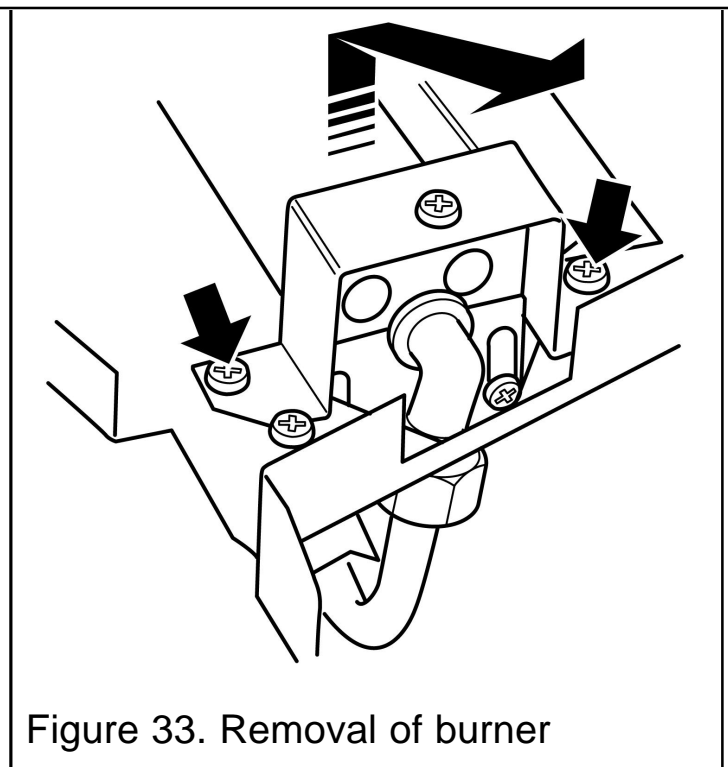

Figure 33. Removal of burner
See figure 33.
3. Remove the two screws from the burner clamping plate (See figure 33)